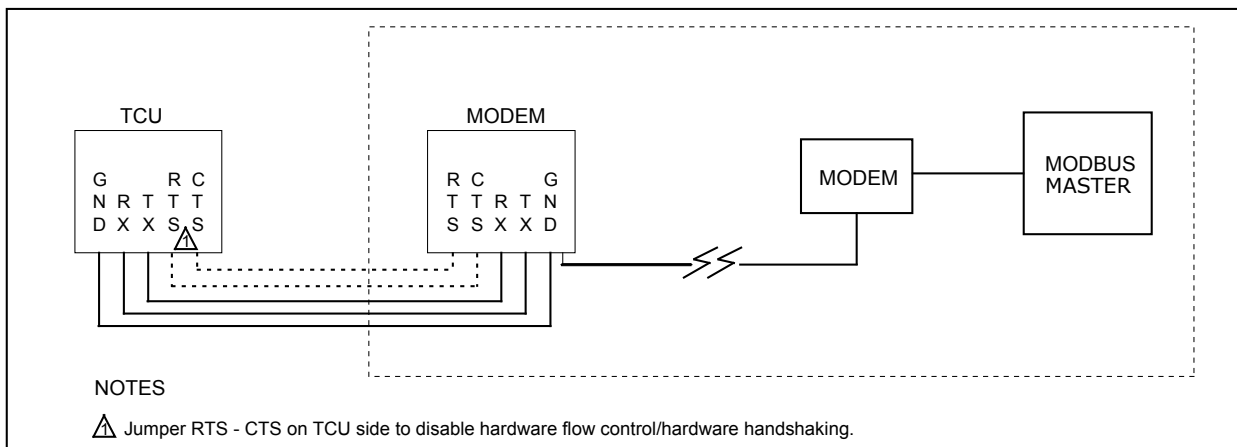

Figure 5-2, "TCU Communicating with Modbus Master via Modem"
- Figure 5-2, "TCU Communicating with Modbus Master via Modem"